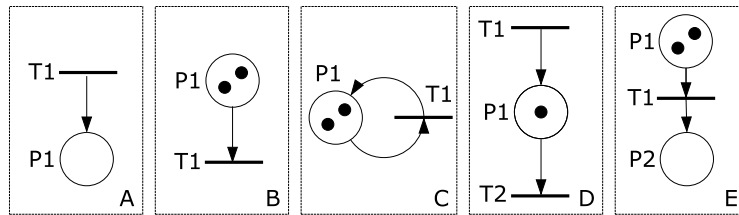

Figure 2
4. For each of the Petri nets A, B, C and D shown in Figure 2 answer the questions